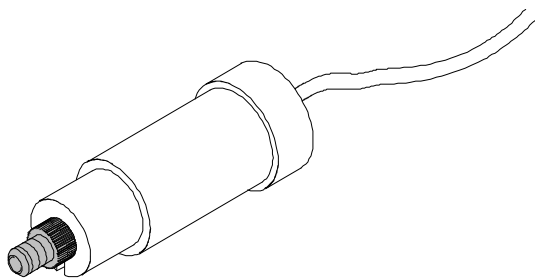

Figure 7 Mounting Tool
- 5 Connect the solvent tubes from the bottle head assemblies to the inlet connectors A through D (typically the upper connection of the channel) of the micro vacuum degasser. Use the mounting tool shown in Figure 7 on page 23 to fix the tube screw. Fix the tubes in the clips of the micro vacuum degasser.
- 6 Connect the outlet tubes to the output ports (typically under connection of the channel) of the micro vacuum degasser. Use the mounting tool shown in Figure 7 on page 23 to fix the tube screw.